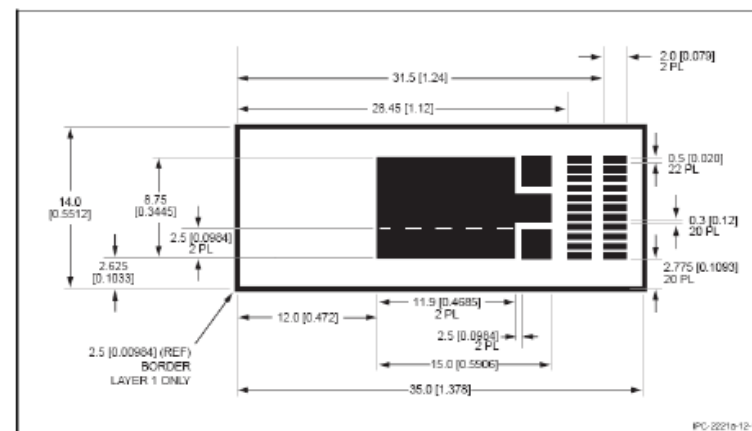

Figure 12-18 Test Coupon M. Surface Mounting Solderability Testing, mm [in]
- **(Surface Mount Solderability - Optional)** The coupon shall be as shown in Figure 12-18.